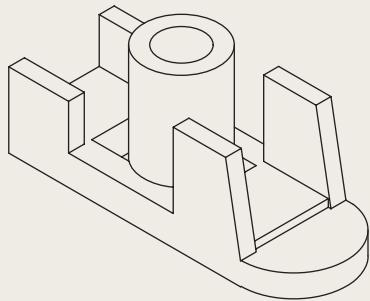
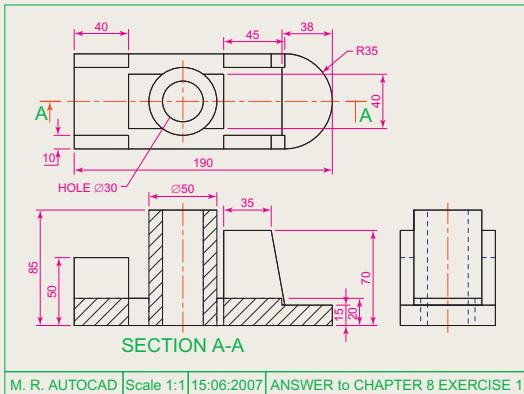

Fig. 8.19 Exercise 1 – a pictorial view
Fig. 8.20 Exercise 1
- Figure 8.19 is a pictorial drawing of the component shown in the three-view orthographic projection Fig. 8.20. Construct the three views but with the front view as a sectional view based on the section plane A-A.